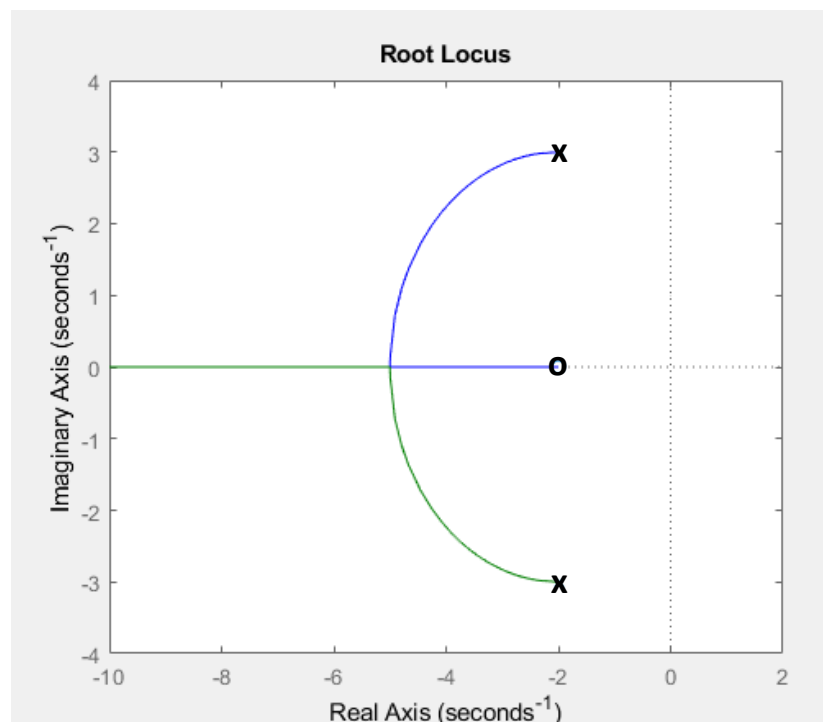

Figure Q3.2
- (a) From the root locus diagram shown in figure Q3.2, determine (i) the open-loop transfer function $G(s)$, (ii) the natural frequency and (iii) damping factor.